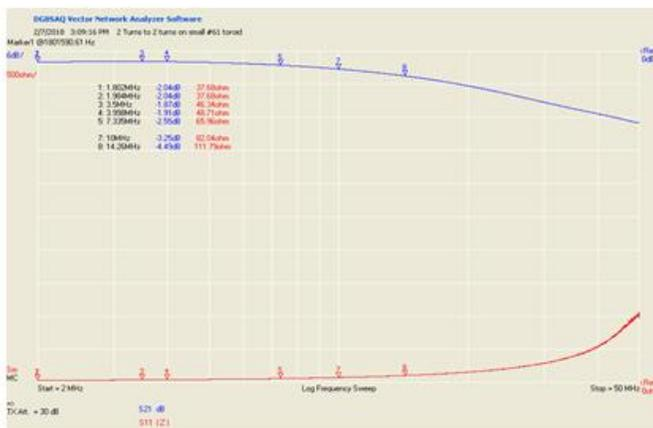

Fig 1a – 2½ turns #61
**Resonance in Ferrite Inductors** Figs 1a and 1b show why high frequency loss increases with more turns – the windings are resonating, as indicated by the peak around 26 MHz for the 5½ turn transformer wound on a #61 core. These are Vector Network Analyzer sweeps with the transformer connected between output and input. The VNA input and output impedances are 50 ohms, the unit can simultaneously measure both gain (loss) and the impedance seen by the generator. The blue curve is the gain (loss) through the transformer, 6dB/div, with zero at the top; the red curve is the impedance seen by the VNWA, 500 ohms/div, zero at the bottom. The sweep is logarithmic from 2 MHz to 50 MHz. The resonant peak in the 2½ turn transformer is much higher in frequency, off the graph.